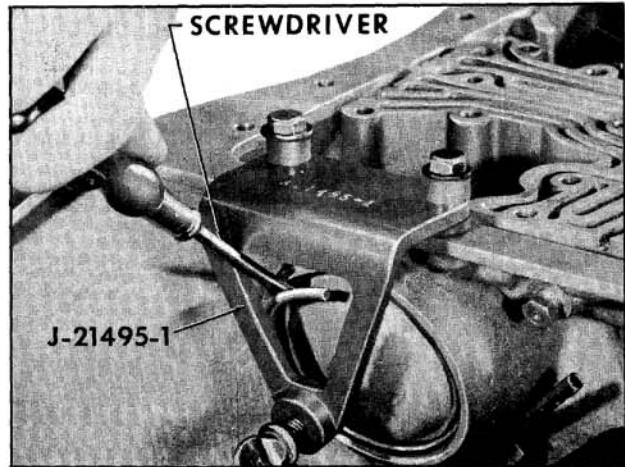

Fig. 6-502 Installing Snap Ring
4. Compress low servo cover with J-21495-1 and install retaining snap ring. (Fig. 6-502)